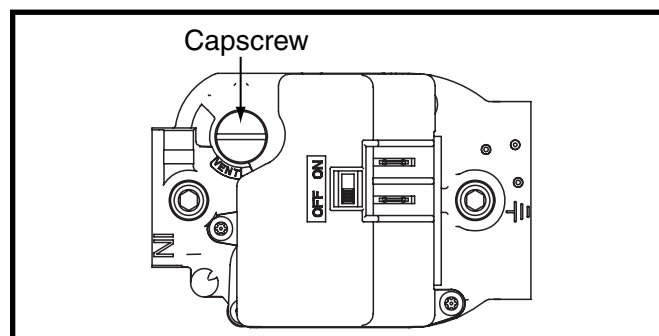

Figure 17. Regulator Capscrew
7. Remove the regulator capscrew from the INLET side of the regulator. See \(Figure 17, \(page 20\)\).